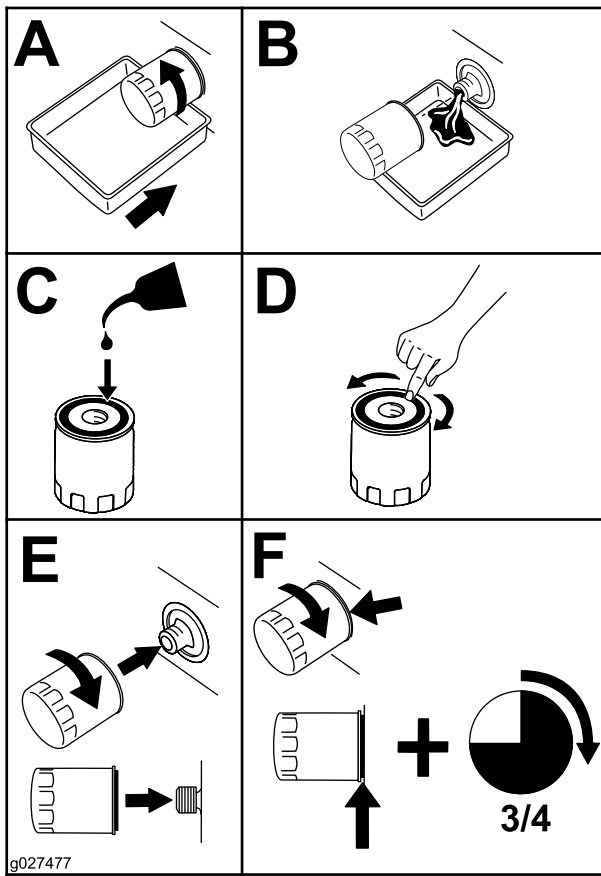

Figure 26
4. Change the engine-oil filter as shown in Figure 26.